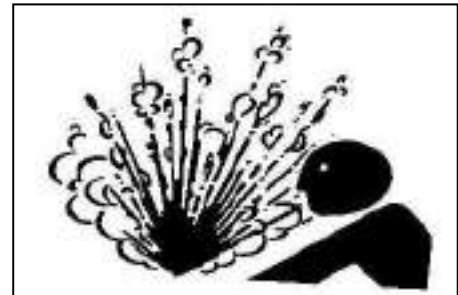

Figure 1.26
- 2) If it is necessary to operate machine in the building, should open door and window to ensure well ventilation, or use long exhaust pipe to discharge smoke (As figure 1.26).